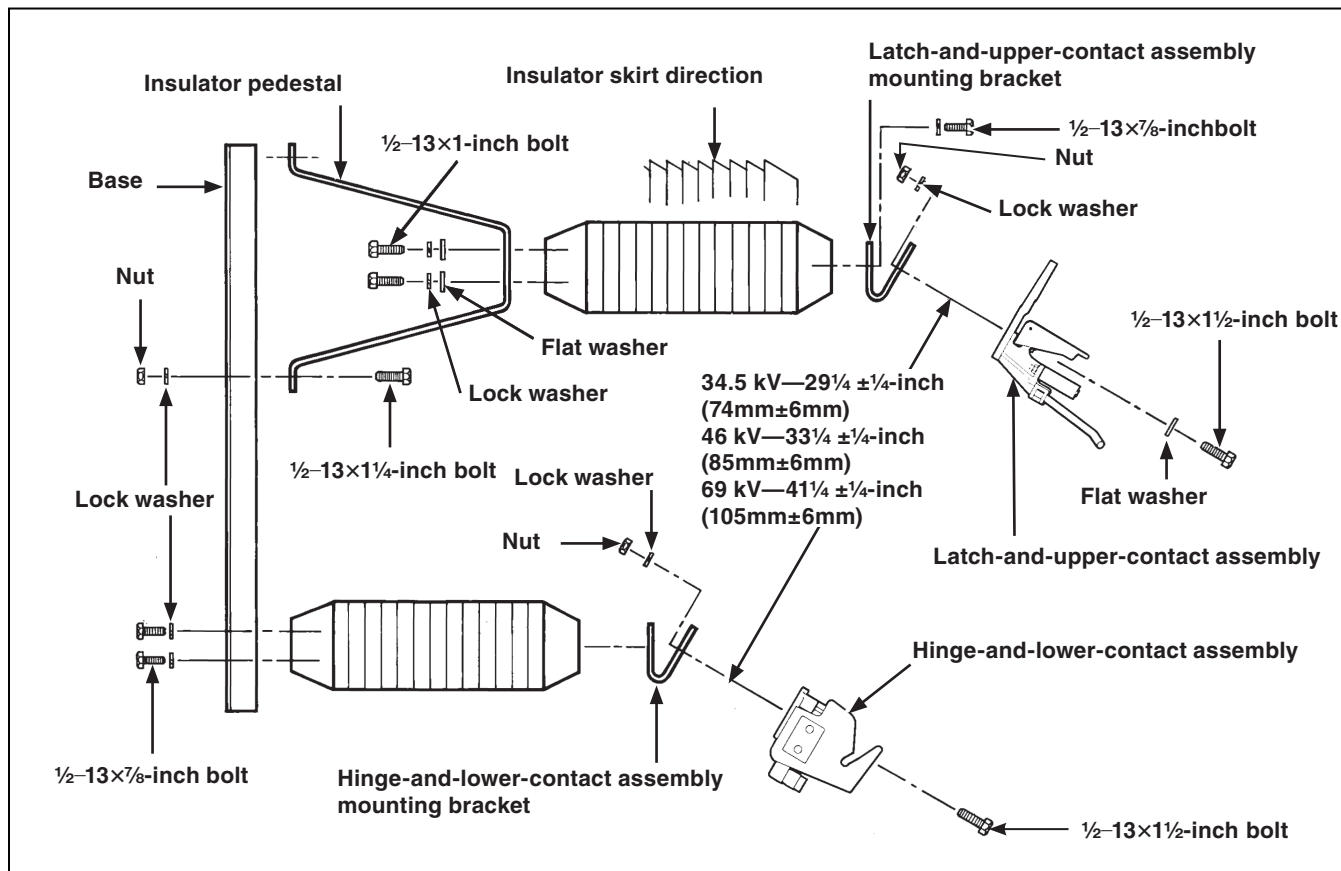
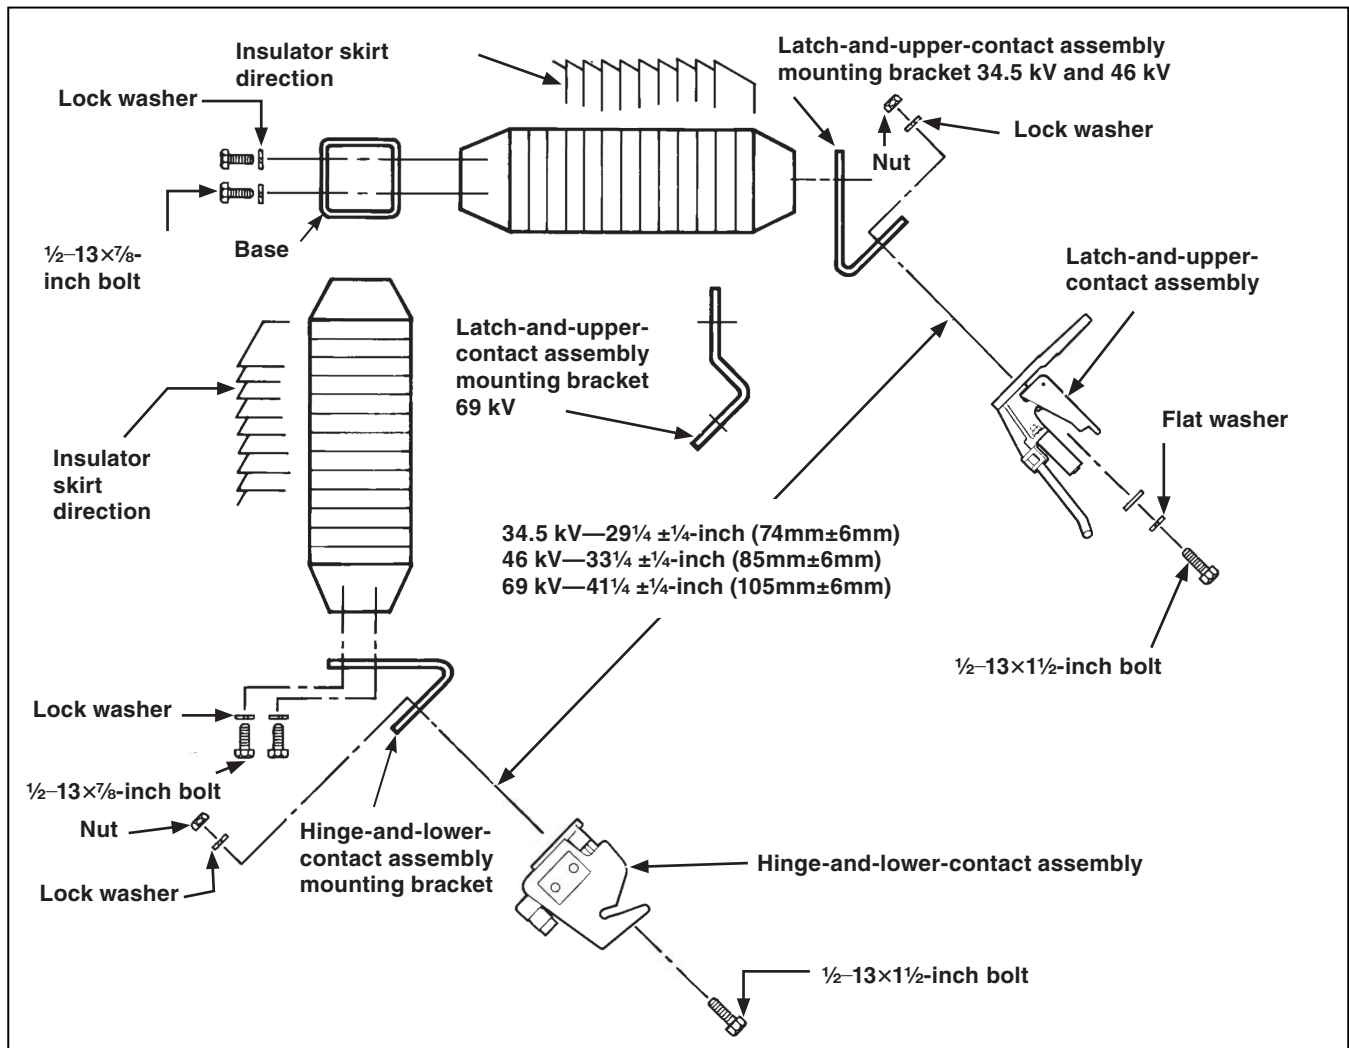

Figure 2. Assembly of mounting, vertical-offset style.
Figure 3. Assembly of mounting, right-angle style.
**Vertical-Offset Style Mountings:** Attach lower insulator to the mounting base, as illustrated in Figure 2 on page 6, using two  $\frac{1}{2}$ -13 $\times$  $\frac{7}{8}$ -inch galvanized bolts and lock washers. Next, attach the insulator pedestal to the mounting base, as shown in Figure 2 on page 6, using four  $\frac{1}{2}$ -13 $\times$  $\frac{1}{4}$ -inch galvanized bolts, lock washers, and nuts. Attach the upper insulator to the insulator pedestal using two  $\frac{1}{2}$ -13 $\times$ 1-inch
**Right-Angle Style Mountings:** Attach insulators to mounting base, as illustrated in Figure 3 on page 7, using two  $\frac{1}{2}$ -13 $\times$  $\frac{7}{8}$ -inch galvanized bolts and lock washers for each insulator. Fully tighten the mounting bolts.
**Vertical-Offset Style Mountings:** Attach the latch-and-upper-contact assembly mounting bracket and hinge-and-lower-contact assembly mounting bracket to the insulators, as illustrated in Figure 2 on page 6, using two  $\frac{1}{2}$ -13 $\times$  $\frac{7}{8}$ -inch galvanized bolts and lock washers for each bracket.
The *shorter* “leg” of each mounting bracket should be mounted against the insulator cap. Position the mounting brackets to obtain the dimension shown in Figure 2 and then fully tighten the mounting bolts.
**Right-Angle Style Mountings:** Attach the latch-and-upper-contact assembly mounting bracket and hinge-and-lower-contact assembly mounting bracket to the insulators, as illustrated in Figure 3 on page 7, using two ½–13×7/8-inch galvanized bolts and lock washers for each bracket.
The *longer* “leg” of each mounting bracket should be mounted against the insulator cap; 69-kV mountings are furnished with an offset latch-and-upper-contact assembly mounting bracket that should be mounted. Position the mounting brackets to obtain the dimension shown in Figure 3 on page 7, and then fully tighten the mounting bolts.
**Vertical-Offset Style and Right-Angle Style Mountings:** Attach the latch-and-upper-contact assembly to the latch-and-upper-contact assembly mounting bracket, as indicated in Figure 2 or Figure 3 on page 7, as applicable, using two ½–13×1½-inch galvanized bolts, lock washers, flat washers, and nuts. Then, attach the hinge-and-lower-contact assembly to the hinge-and-lower-contact assembly mounting bracket, as indicated in Figure 2 or Figure 3 on page 7, as applicable, using two ½–13×1½-inch galvanized bolts, lock washers, and nuts. Do not fully tighten mounting bolts at this time.